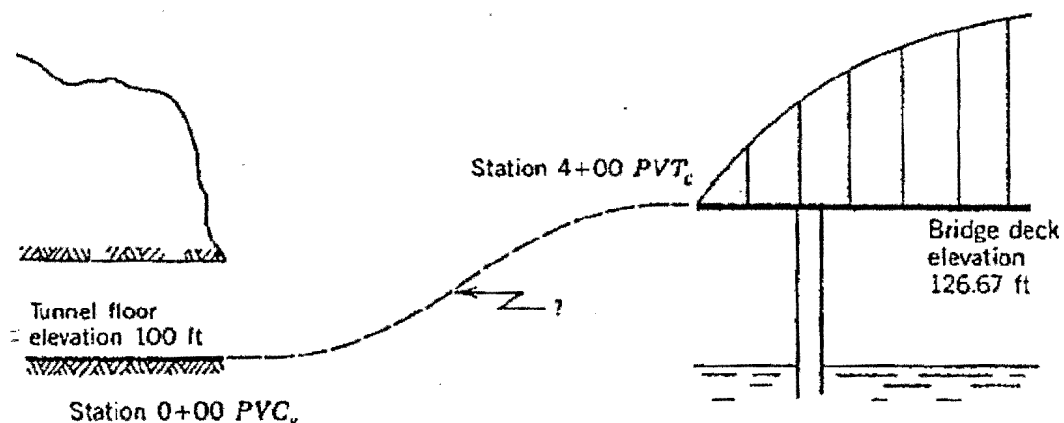

Figure.2. Profile view of vertical alignment diagram
- (d). An engineering mistake has resulted in the need to connect an already constructed tunnel and bridge with a vertical curve. The profile of the tunnel and bridge is given in the Figure .2 below. Devise a vertical alignment to connect the tunnel and bridge for 20 mph design speed for the sag and crest (equal tangent) vertical curves needed. Assume that the final grade of the sag curves equals the initial grade of the crest curve. Compute stationing and elevation of PVC, PVI and PVT curve points. Length of Curve: $L_c = KA$